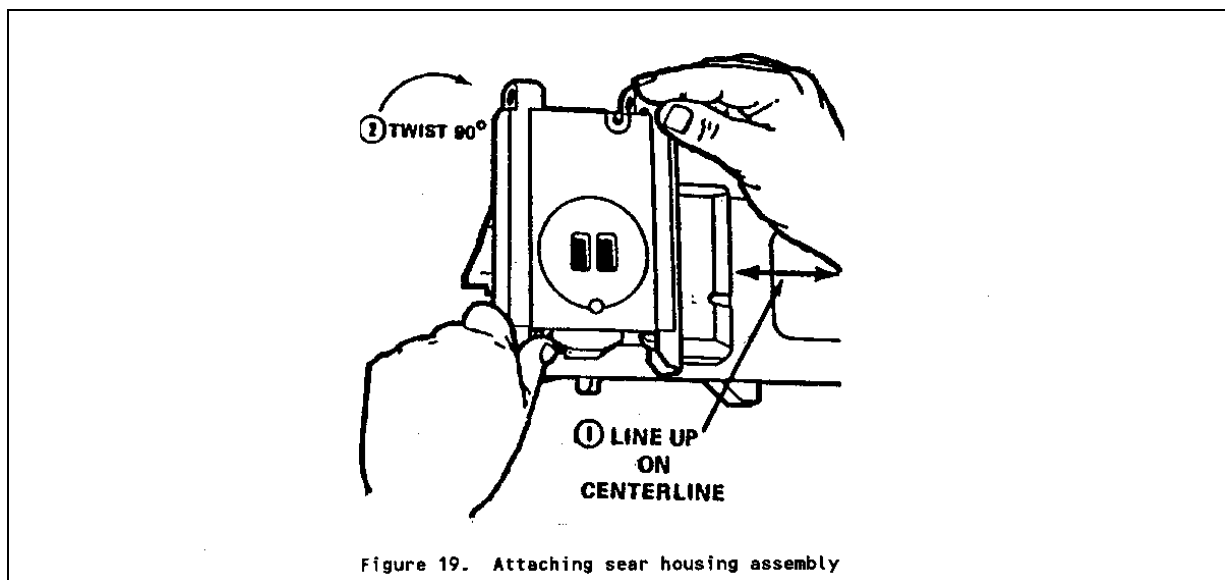

Figure 18. Attaching sear housing assembly
- (1) Ensuring that the sear spring is held in position, line up the assembly at a 90 degree angle to the barrel centerline. (See Figure 18.)
- (2) Put safety on "F" (fire).
- (3) Turn the assembly 90 degrees toward the barrel centerline until the assembly locks into position.